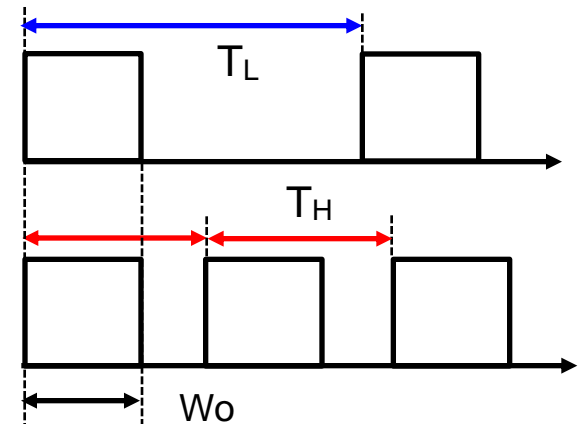

Fig.3-7 Ideal PCM Coding
- * Ideal coding like Fig. 3-7 is difficult, because of difference of the period.